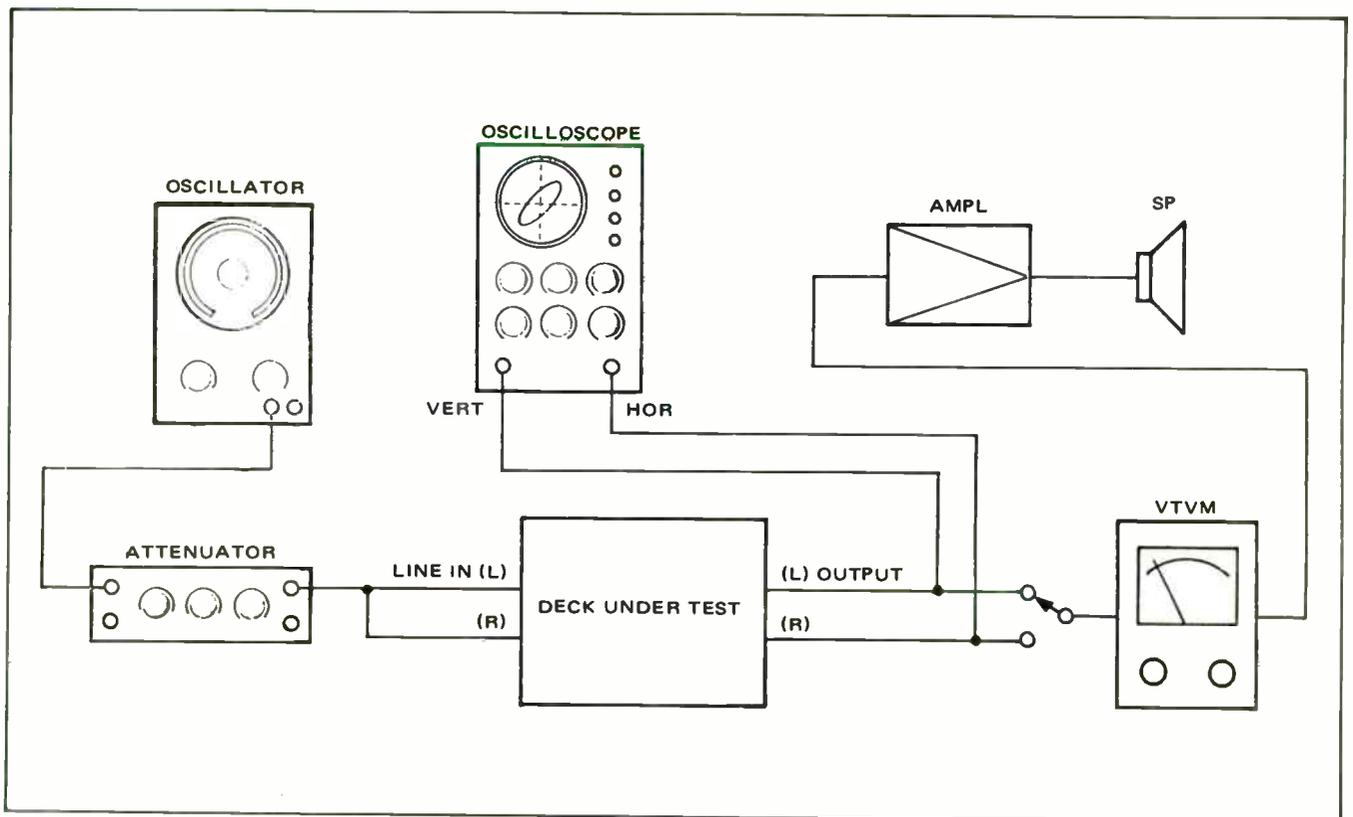

Figure 5-17. Test Connections
3. Refer to Figure 5-17 and connect an oscillator through an attenuator to the input connectors to set the input level to -10 dBm. Connect a vtm to the output connector of channel 1.
Refer to Figure 5-17 when making required test connections. Table 5-3 gives Ampex part numbers for test tapes required for these procedures. Blank tapes are listed in Table 5-1, along with other necessary test equipment.
1. Refer to Figure 5-17 and connect a vtvm to the output connector. Also connect an oscilloscope with the channel 1 output
1. Connect recorder/reproducer to vtm as shown in Figure 5-17, terminating output with a 600-ohm load.